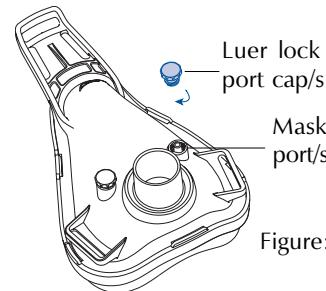

Figure: 8
**1** Twist the luer lock port caps onto the mask ports (Fig. 8).